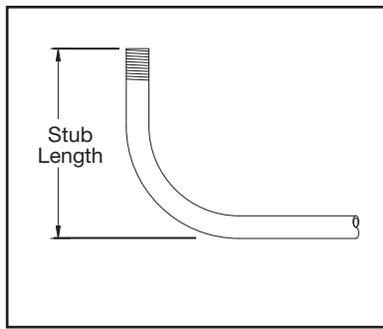
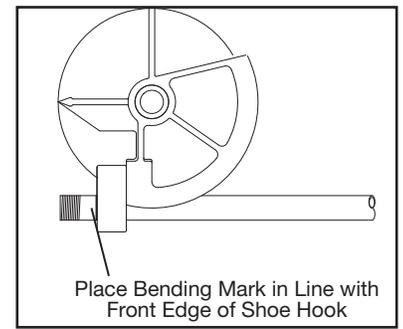

Figure 18a
Figure 18c
2. Measure and mark desired stub length on conduit (stub length mark). Subtract "Deduct Length" from this mark and make a second mark (bending mark). See Fig 18a and 18b. Place bending mark at front edge of shoe hook. See Figure 18c. Check Chart A, B, or C for springback of desired degree of bend. Bender should be advanced to this degree to obtain desired degree of bend.